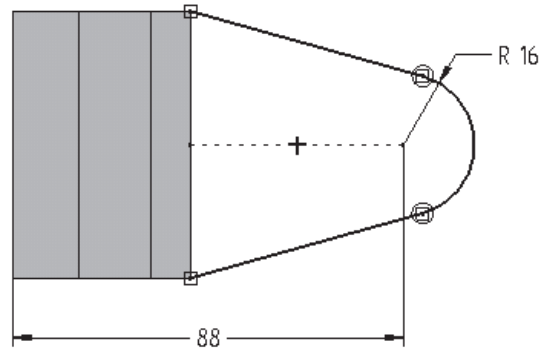

Figure 5-59 Open profile for the second feature
2. Draw the profile for the second feature using various sketching tools and then add the required dimensions and relationships to the profile, as shown in Figure 5-59. Note that you do not need to draw the vertical line on the left to close the sketch. While creating the feature, you can define the side of material addition to complete the feature.